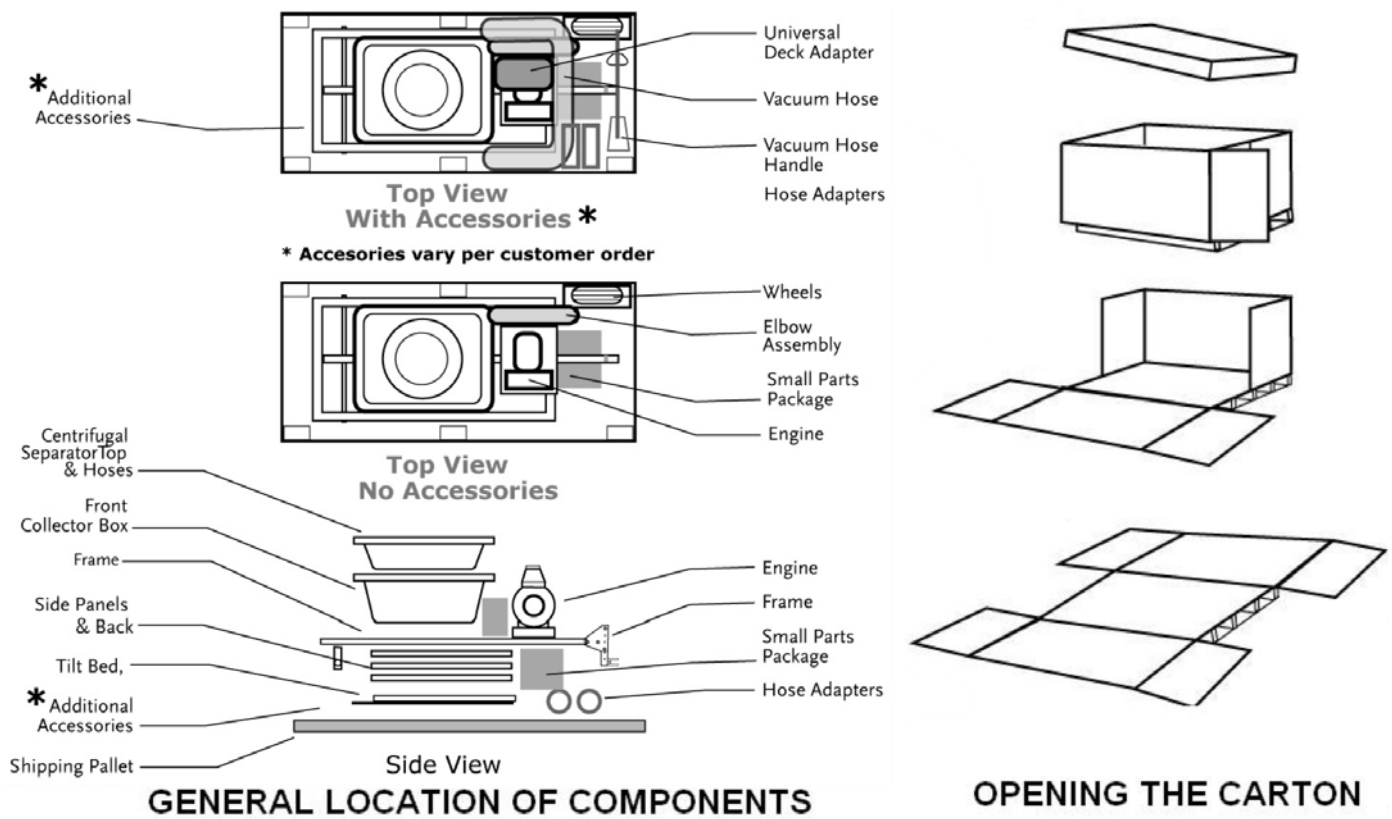

Figure 2
2. Remove the top of the carton (**Figure 2**).
3. Open the ends of the stapled cardboard carton and fold the sides down (**Figure 2**). The staples are sharp so be careful.
4. Remove the Wheels from the forward upright compartment (**Figure 2**).